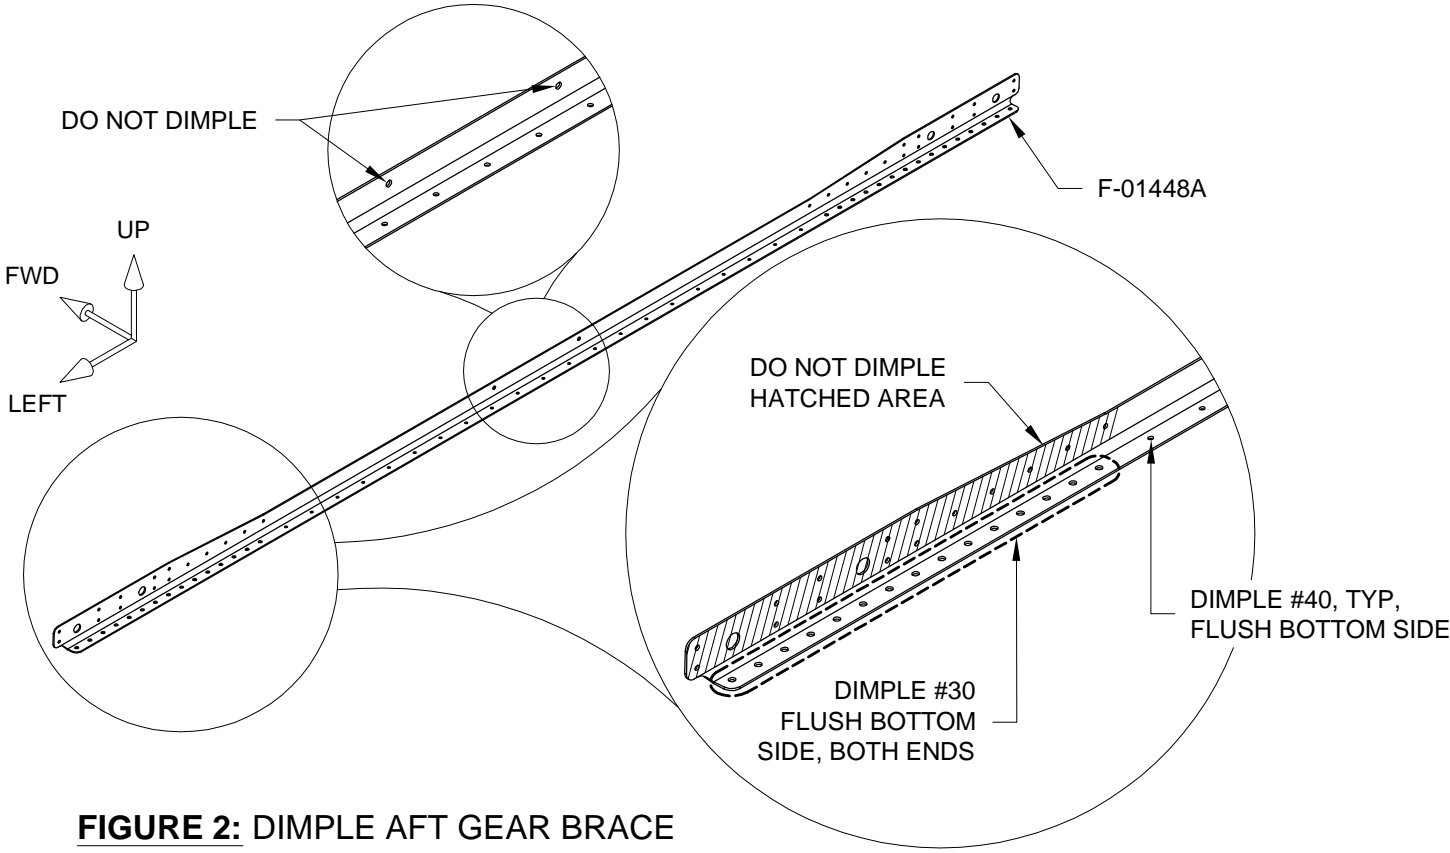

FIGURE 2: DIMPLE AFT GEAR BRACE
Step 3: Dimple only the called out #30 and #40 holes in the F-01448A Aft Gear Brace as shown in Figure 2.